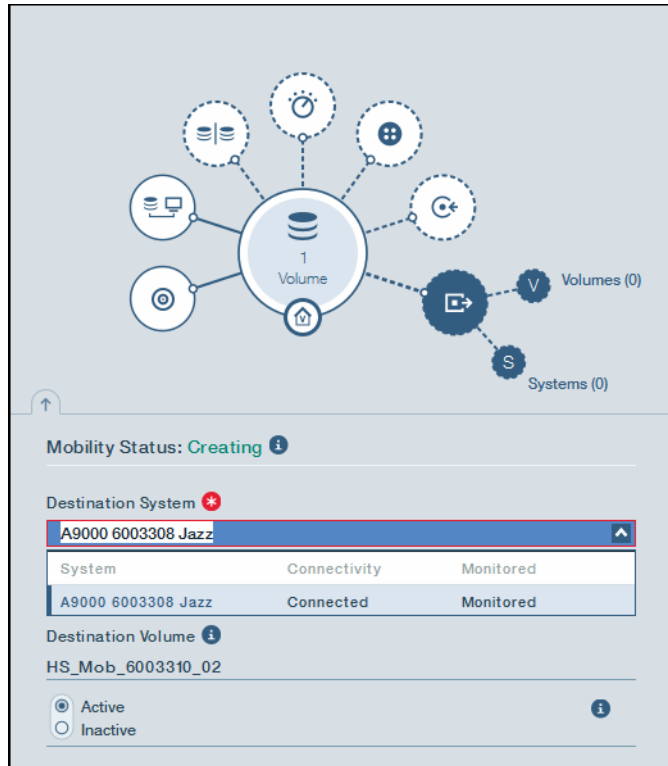

Figure 3-10 Creating a new Online Volume Migration - Destination System
- After selecting the Online Mobility spoke, click the plus sign (+) to create a new Online Mobility definition for the source volume. Then fill in the information for the Destination System, as shown in Figure 3-10.